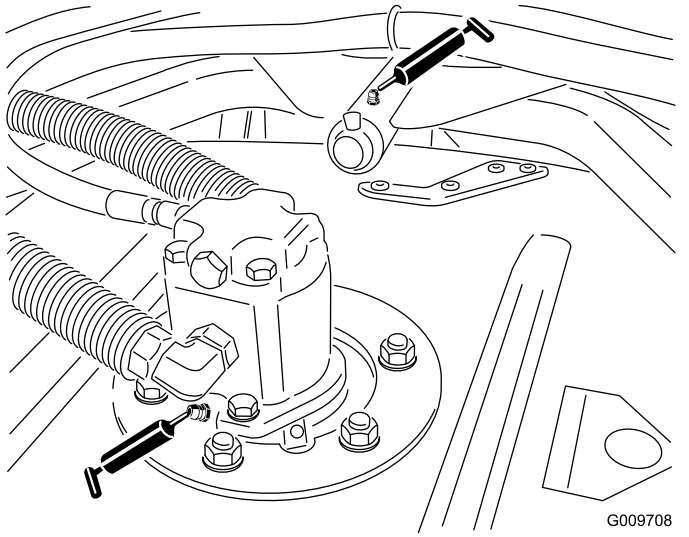

Figure 37
- Cutting-unit spindle-shaft bearings (2 per mower deck) as shown in Figure 37
- Cutting-unit carrier-arm bushings (1 per mower deck) as shown in Figure 37